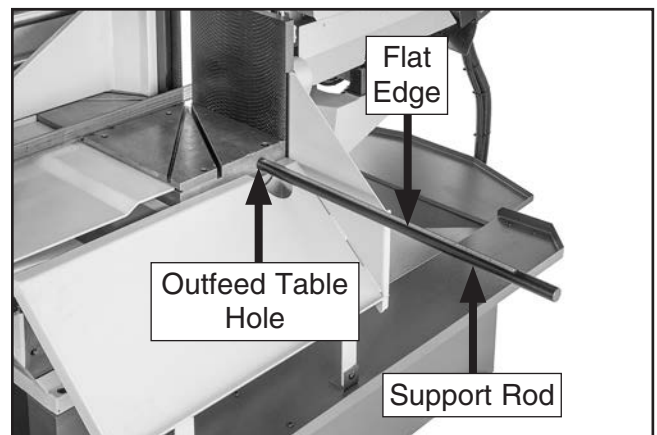

Figure 53. Work stop bar installed in table.
4. Screw work stop support rod into hole in outfeed table with scale facing upward, as shown in **Figure 53**.